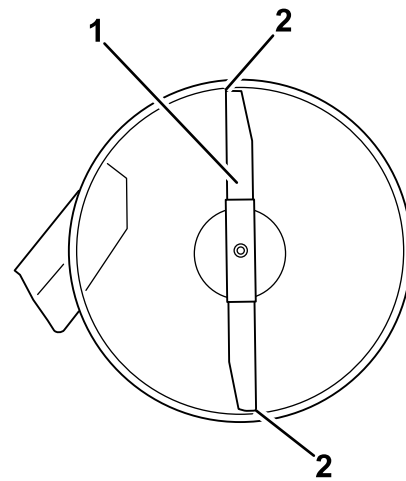

Figure 54
- Carefully rotate the blades so they are facing front to rear (Figure 54).
- Measure from the tip of the front blade to the flat surface and the tip of the rear blade to the flat surface (Figure 54).
9. After adjustment, check the front-to-rear slope again, continue adjusting the nut until the front blade tip is 1.6 to 7.9 mm (1/16 to 5/16 inch) lower than the rear blade tip (Figure 54).